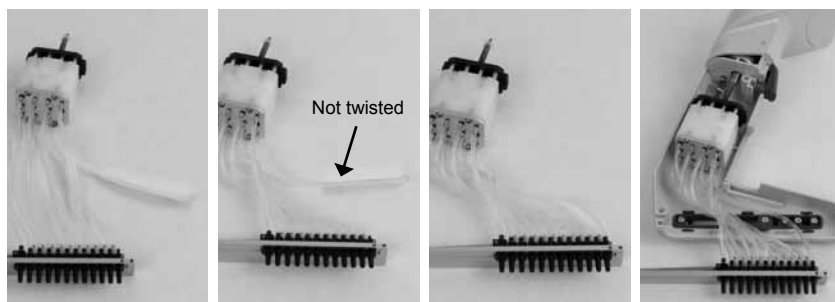

Figure F.1.4d: Rotating Manifold Assembly
- 4. Rotating Manifold Assembly** After installing the piston/cylinder assembly, install the manifold assembly into the main housing. Make sure manifold is in closed position. To keep the tubing free from ejector contact, rotate the manifold plate and tubing one complete turn counterclockwise (see Figure F.1.4d). Spin tubing once, then reconnect tube one without twisting (*it is the only tube not twisted*).